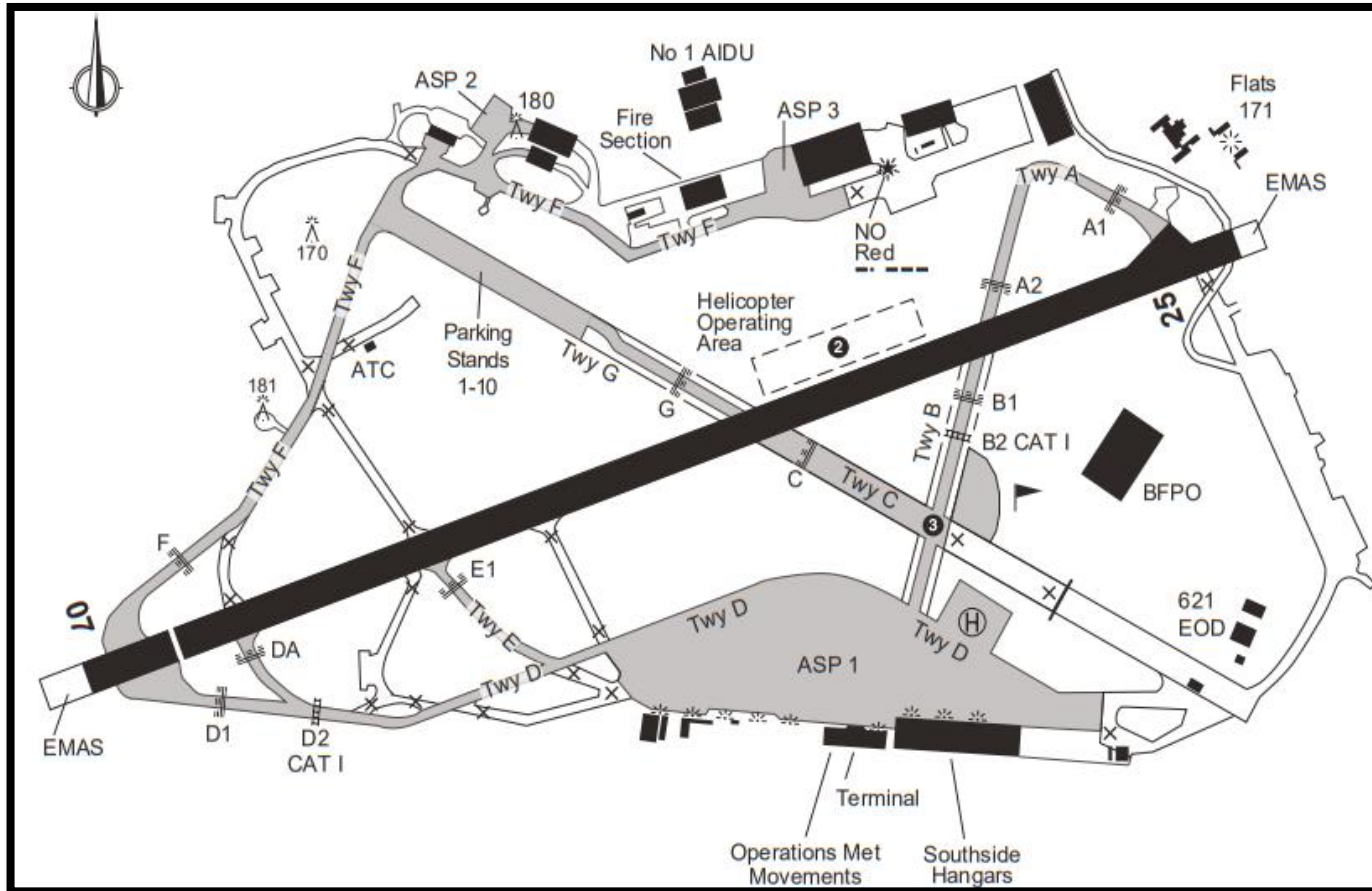

Figure K-2 Depicting the Helicopter Operating Area
- d. Stn-based, or appropriately briefed RW aircraft may use the Helicopter Operating Area (HOA) (see Figure K-2).